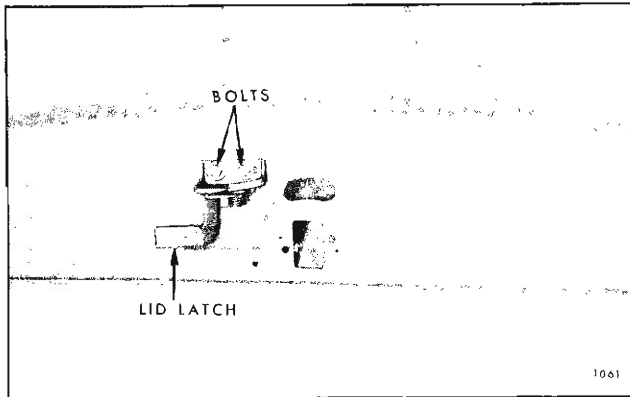

Fig. 5F8—Engine Compartment Lid Latch Assembly
2. Remove two bolts securing latch to engine compartment inner panel and remove assembly from body. (See Fig. 5F8).